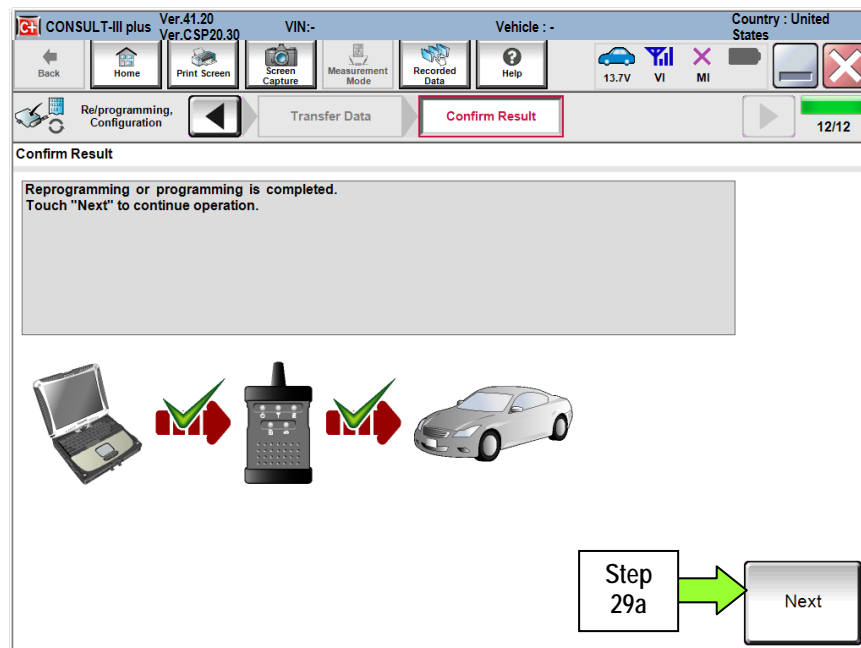

Figure 16
29. When the screen in Figure 16 displays, reprogramming is complete.